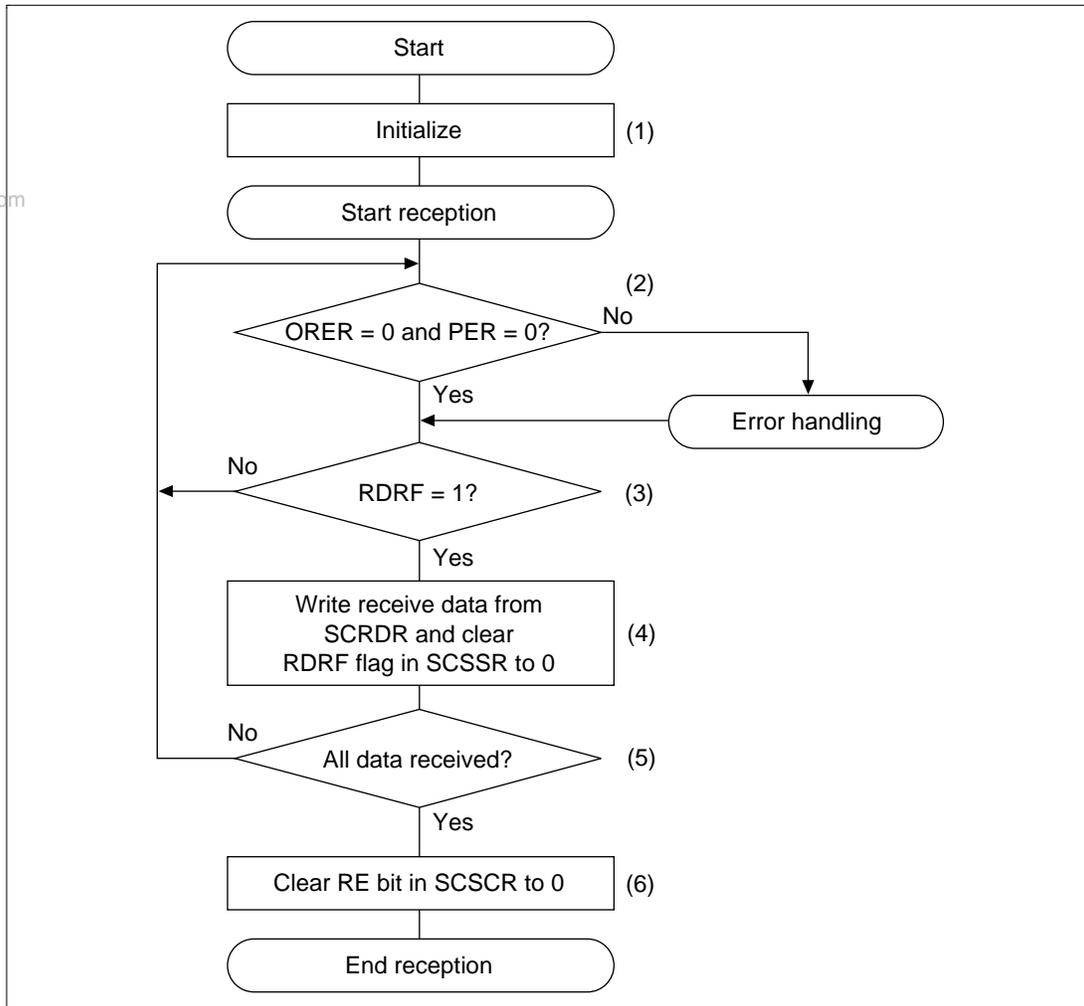

Figure 14.7 Reception Flowchart (Example)
**Serial Data Reception:** The handling procedures in the smart card mode are the same as in ordinary SCI processing. The reception processing flowchart is shown in figure 14.7.